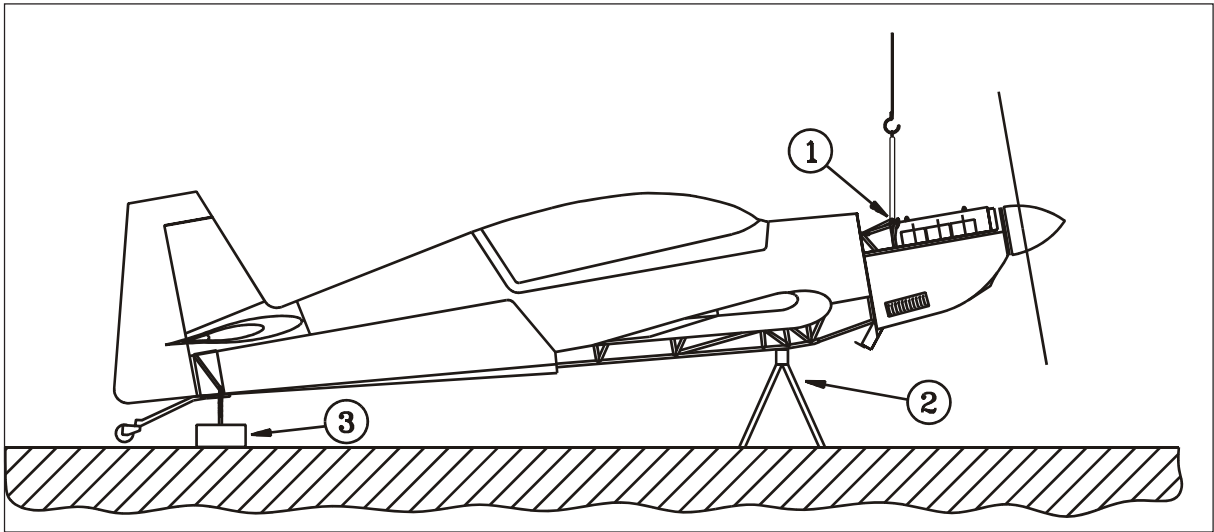

Figure 3
- 2 Install a balance weight (3, Figure 3) at the tail as per Chapter 07-10-01.